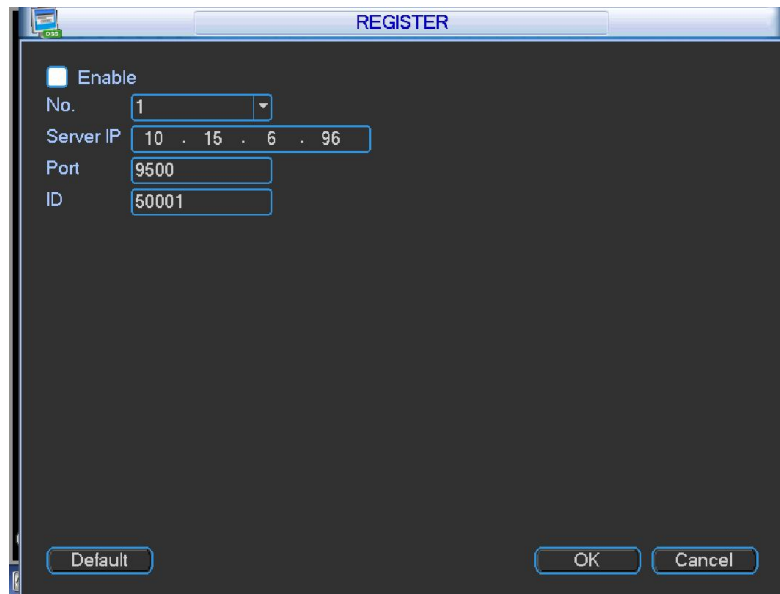

Figure 12
From Main menu->Vehicle->Register, you can see an interface shown as in Figure 12
1) The setup interface is shown as in Figure 12.
- 3) Now you can add device. Please do not input default port number such as the TCP port in the mapping port number. The device ID here shall be the same with the ID you input in Figure 12. Click Add button to complete the setup.